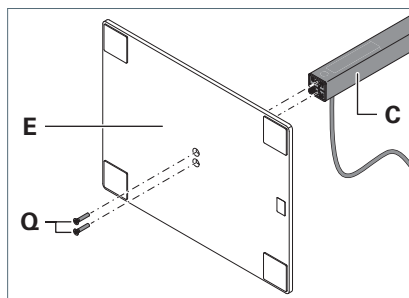

Fig. 4: Assembling the column.
3. Assemble the column with the screws provided **Q** on the luminaire base **E**, see Fig. 4.